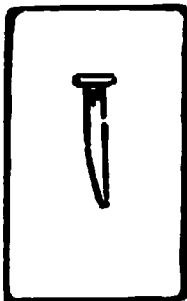

Fig. 227. Tack.
*Tacks*, Fig. 227, vary in size and shape according to their use; as, flat-headed, gimp, round-headed, and double-pointed or matting tacks, a sort of small staple. Their size is indicated by the word "ounce." For example, a two-ounce tack is  $\frac{1}{4}$ " long, a three-ounce